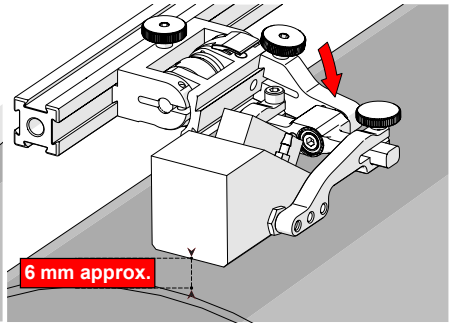

Fig. 51 - Lower to scanning surface
2. Push the probe holder yoke down toward the inspection surface until the wedge is approximately 6 mm (¼ in) above the inspection surface (Fig. 51).